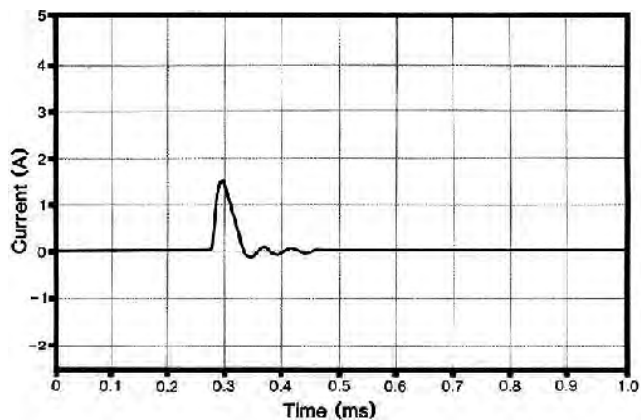

FIGURE 44. Dry Condition Current Output.
**Shock Intensity:** Current output for dry and wet conditions are shown in FIGURES 44 and 45.